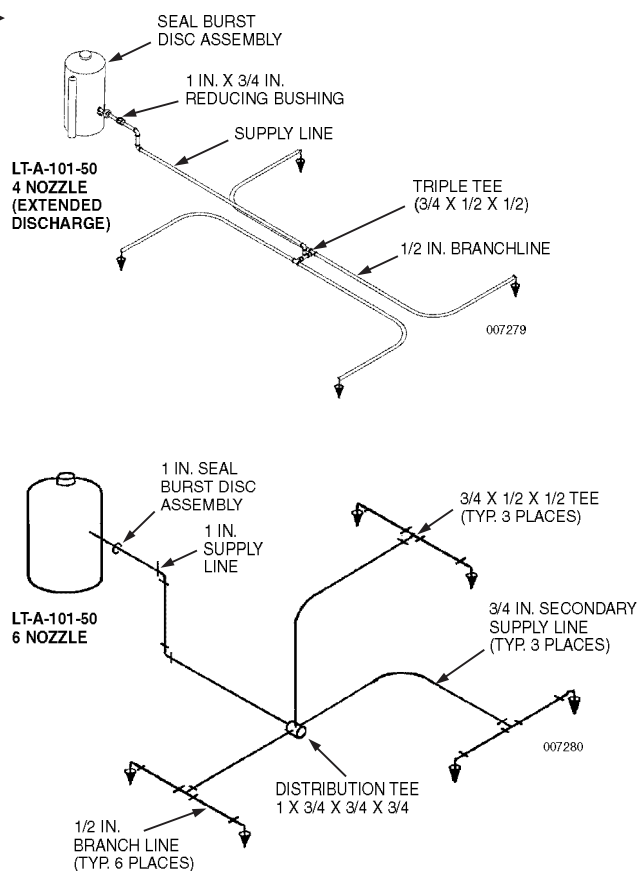

FIGURE 1 – Continued
- Each set of (4) four nozzles will protect a 1000 cu. ft. (28.3 cu m) maximum hazard utilizing either a 4, 8, 12, 16, or 24 nozzle system.
- Maximum linear hazard size for each set of (4) four nozzles is 10 ft x 10 ft x 10 ft (3.0 x 3.0 x 3.0 m) utilizing either a 4, 8, 12, 16, or 24 nozzle system.
- ▶ See Figure 1 for nozzle layouts.